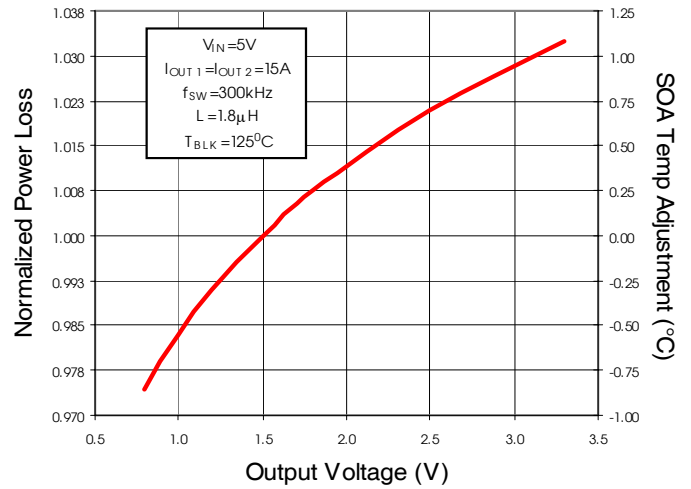

Fig. 5: Normalized Power Loss vs. V_{OUT}
(Fig. 5) Normalized power loss for output voltage ≈ 1.0
- (Fig. 5) Normalized power loss for output voltage ≈ 0.98
- (Fig. 5) Normalized SOA Temperature for output voltage $\approx 0^{\circ}C$
- (Fig. 5) Normalized SOA Temperature for output voltage $\approx -0.55^{\circ}C$